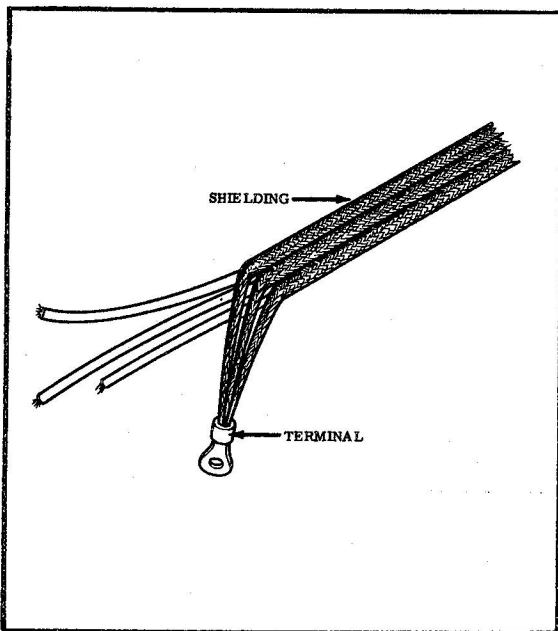

Figure 29 Shielded Wire Soldering
- (a) Bring pigtailed individually into a terminal and attach by approved staking or soldering methods, see Figure 29.